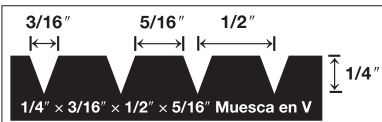

Figura 2
- Lana en V de 1/4" x 1/2" x 3/16" (6 mm x 13 mm x 5 mm) (Figura 2)